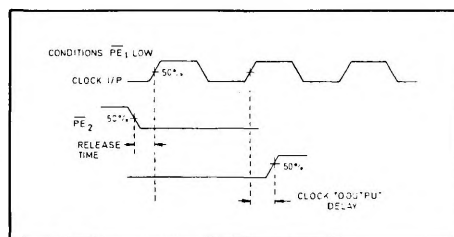

Fig. 4 Release timing diagram
- Release time is defined as the minimum time that can elapse between a H $\rightarrow$ L transition of a control input and the next L $\rightarrow$ H clock pulse transition to ensure that the  $\div 6$  mode is forced by that clock pulse (see Fig. 4).